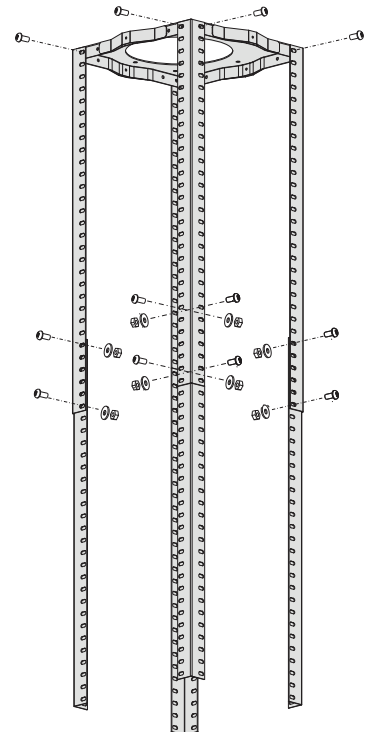

Figure 2
- Attach the 2 sections of the angle iron together for each corner using supplied 16 pieces M4 × 10mm mounting screws with nuts and washers (see Figure 2).
- Use 8 pieces M4 × 10mm mounting screws to attach the angle iron into the hanging board (see Figure 2).